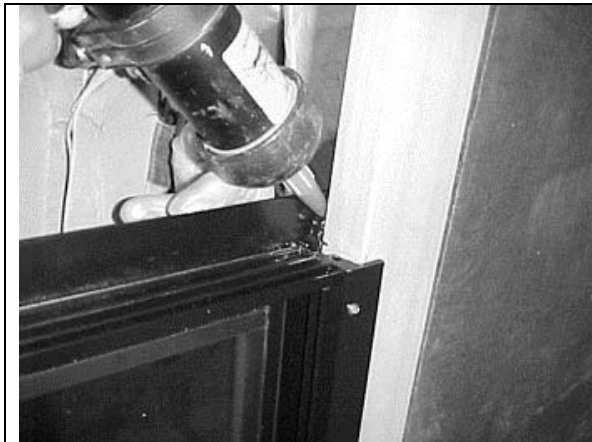

FIGURE 74 : AWNING WINDOW – SEAL THE UPPER CORNERS
11. Using Sika 252 or 255, seal the upper corner of the awning window, both side (FIGURE 74);